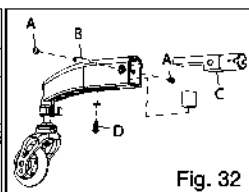

Fig. 32
- Remove the 6mm screw from one side of Dynamic 5th wheel arm (Fig. 32:A) using two 4mm Allen wrenches.
- Using an Allen wrench, push the threaded barrel (Fig. 32:B) out of the arm assembly.
- Slide the tubular receiver (Fig. 32:C) out of the assembly.
- Remove the 6mm screw located on the underside of the assembly. This will release the elastomer (Fig. 32:D). Remove the elastomer and set aside.
- Thread the 6mm screw and the washer (Fig. 32:D) through the slot and into the threaded insert in the elastomer.
- Retighten the 6mm screw (Fig. 32:D). Do not overtighten.
- Reinsert the tubular receiver (Fig. 32:C) into the arm. Ensure the flat arm of the tubular receiver is placed over the top of the elastomer.
- Align the holes on the arm and the tubular receiver to insert the threaded barrel (Fig. 32:B) and the 6mm screw (Fig. 32:A).
- Tighten the 6mm screws (Fig. 32:A) using two 4mm Allen wrenches.